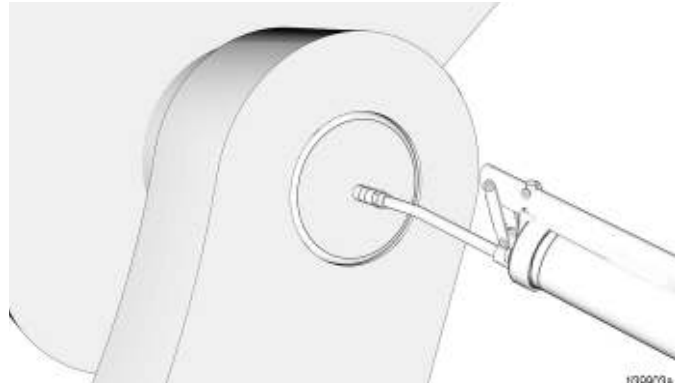

FIG. 1
1. Grease all zerk fittings (FIG. 1).